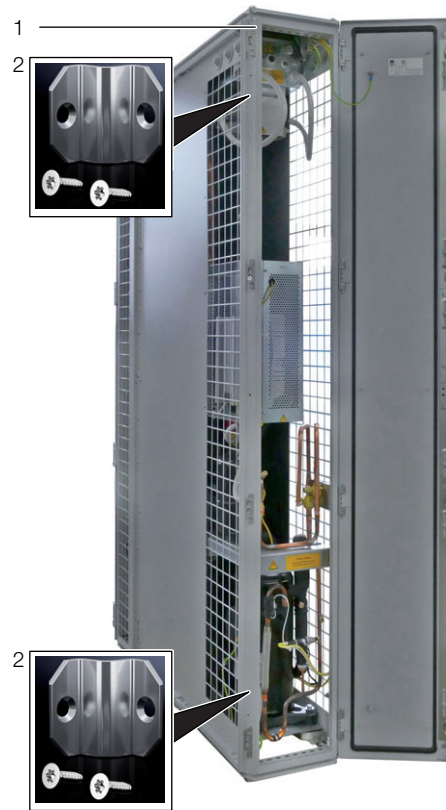

Fig. 15: Rear
- Using the corresponding assembly screws, fasten two baying connectors each (fig. 15, item 2) onto the attachment points provided in the mounting strips on the front and rear of the LCP DX (fig. 15, item 1).